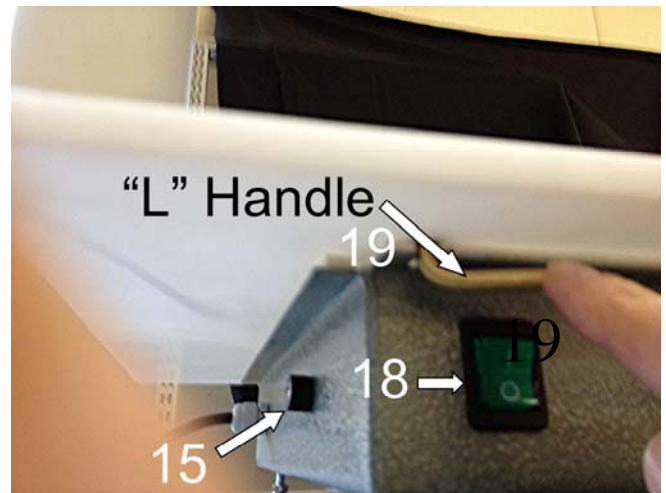

Figure 4
4. Lower the table from the front and turn the L handles (19) to lock it in place as showed in figure 4.